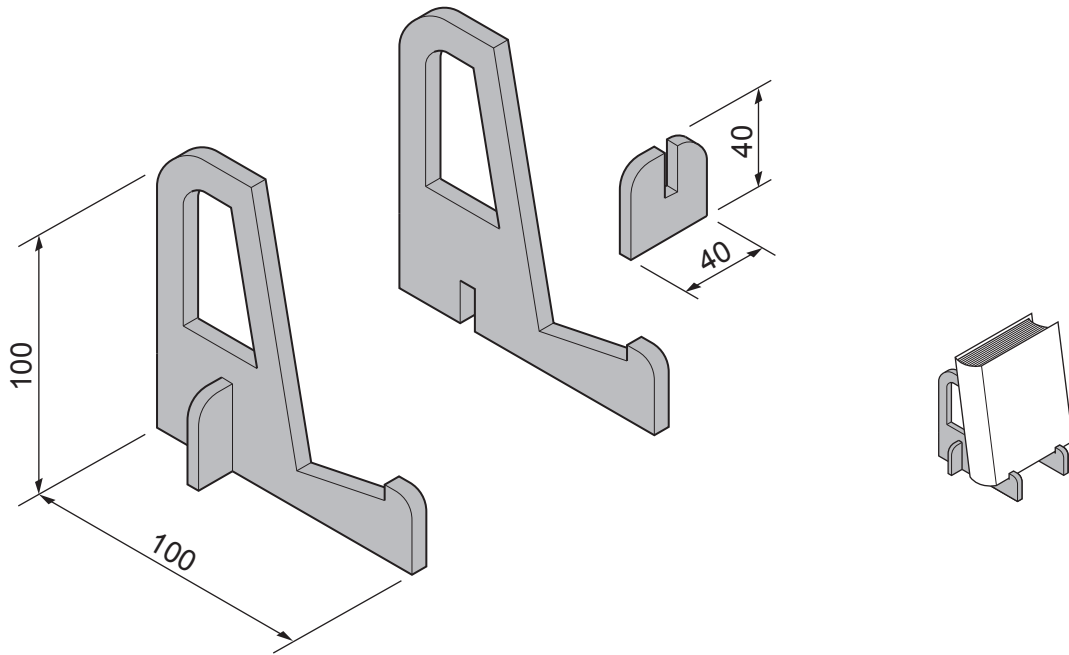
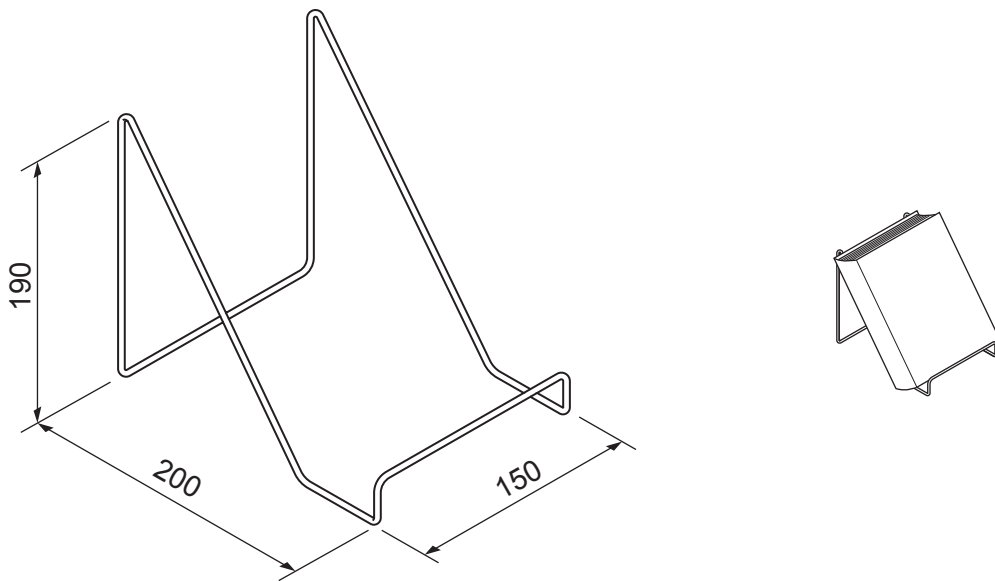

Fig. 12.1
Fig. 12.5
- 12 Fig. 12.1 shows a book stand that will be used to display books in a school library. The book stand is made from 5 mm thick acrylic and a batch of ten will be produced by hand in a school workshop.
- (e) Fig. 12.5 shows a different design for a book stand made from one length of $\text{Ø}5$ non-ferrous metal rod.
(iii) Use sketches and notes to show how a single length of Ø5 non-ferrous metal rod could be bent to the shape of the book stand shown in Fig. 12.5.
(f) Describe **one** different design feature of each of the book stands shown in Fig. 12.1 and Fig. 12.5.
Acrylic book stand Fig. 12.1
Metal book stand Fig. 12.5